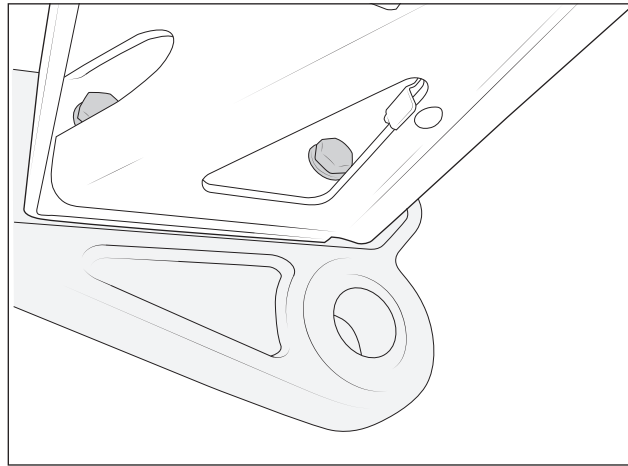

Figure 36
4. Use two supplied M12x50 Hex head bolts to mount the tow hook between the corner assembly and the center section (fig. 36). NOTE: Bolts are installed through openings in the center section. Some of the previously installed wiring may need to be moved to allow tool access.
- B. Torque upper corner assembly nuts (fig. 36) to **43 lb-ft.**